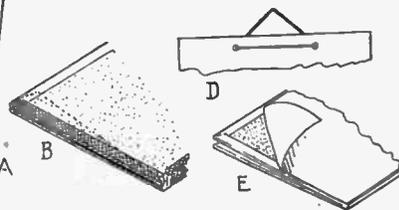

Fig. 3—Hanging and fixing details
Fig. 3 shows an end view of the stand and shows that the above rods do not project through the uprights (A). The holes may be  $\frac{1}{2}$ in. or  $\frac{3}{8}$ in. diameter to suit the section of turned rod used. The holes may be bored to a depth of  $\frac{1}{2}$ in. or  $\frac{3}{8}$ in. The work may now be finally glued up and held where possible by clamps until the glue has hardened. It will be a good plan to fix the legs into the uprights first, after which the cross rails are fixed.
and paste this over the back to hide the edges of the gussets and bottom hinge, as seen at (E) Fig. 3.